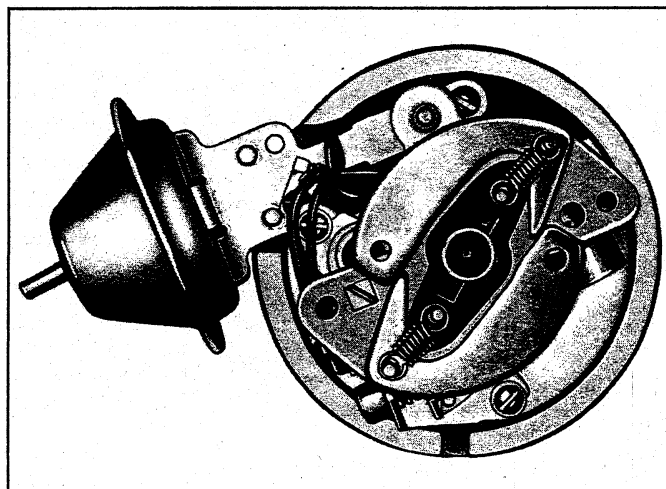

Fig. 14i—Advance Weights Installed
3. Lubricate and slide weight cam over mainshaft and install weights and spring (fig. 14i).